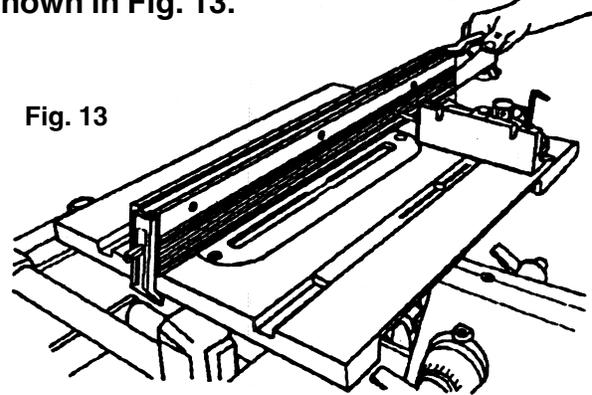

Fig. 13
11. Move the rip fence toward the Allen wrench until it just touches. Tighten the handle, then lock the rear clamp lever to secure both ends of the rip fence, as shown in Fig. 13.